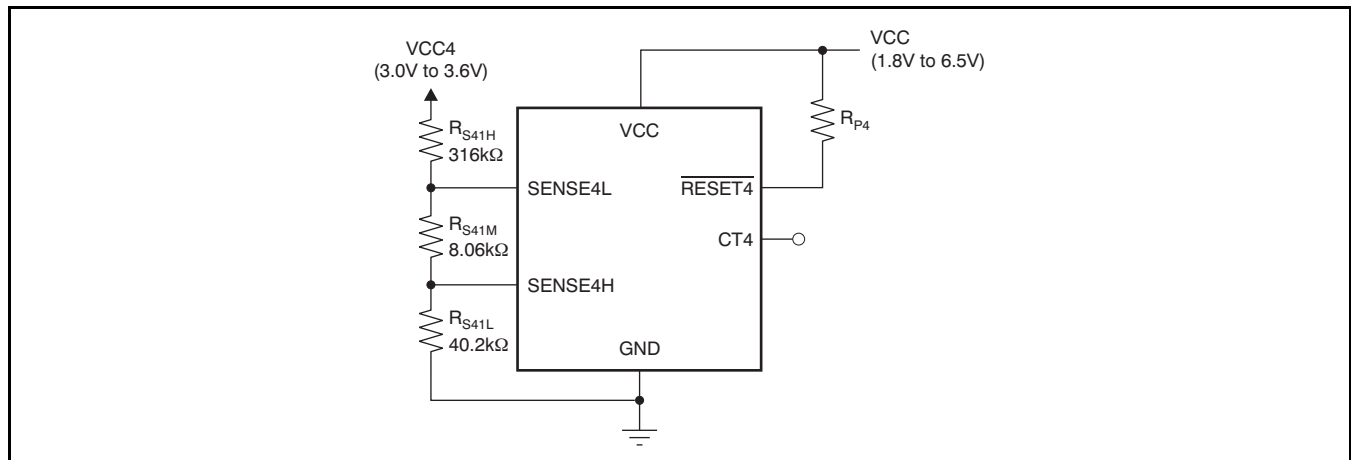

Figure 30. SVS-4: Window Comparator
The comparator at the SENSE4H pin has the opposite comparison polarity to the other SENSEm pins. In the configuration shown in Figure 30, this comparator monitors overvoltage of the VCC4 node; combined with the comparator at SENSE4L, SVS-4 forms a window comparator.
- Changed link in *Window Comparator* section to new Figure 30 17
- Added Figure 30 17